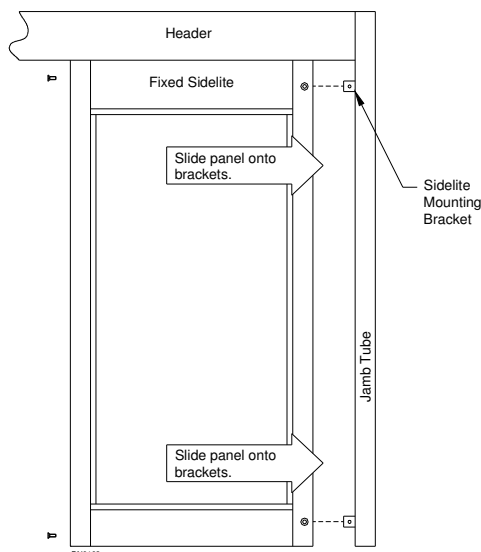

Figure 22
5. Align back end of fixed panel with brackets on jamb tube. Ensure that no wires are pinched (See Figure 22).